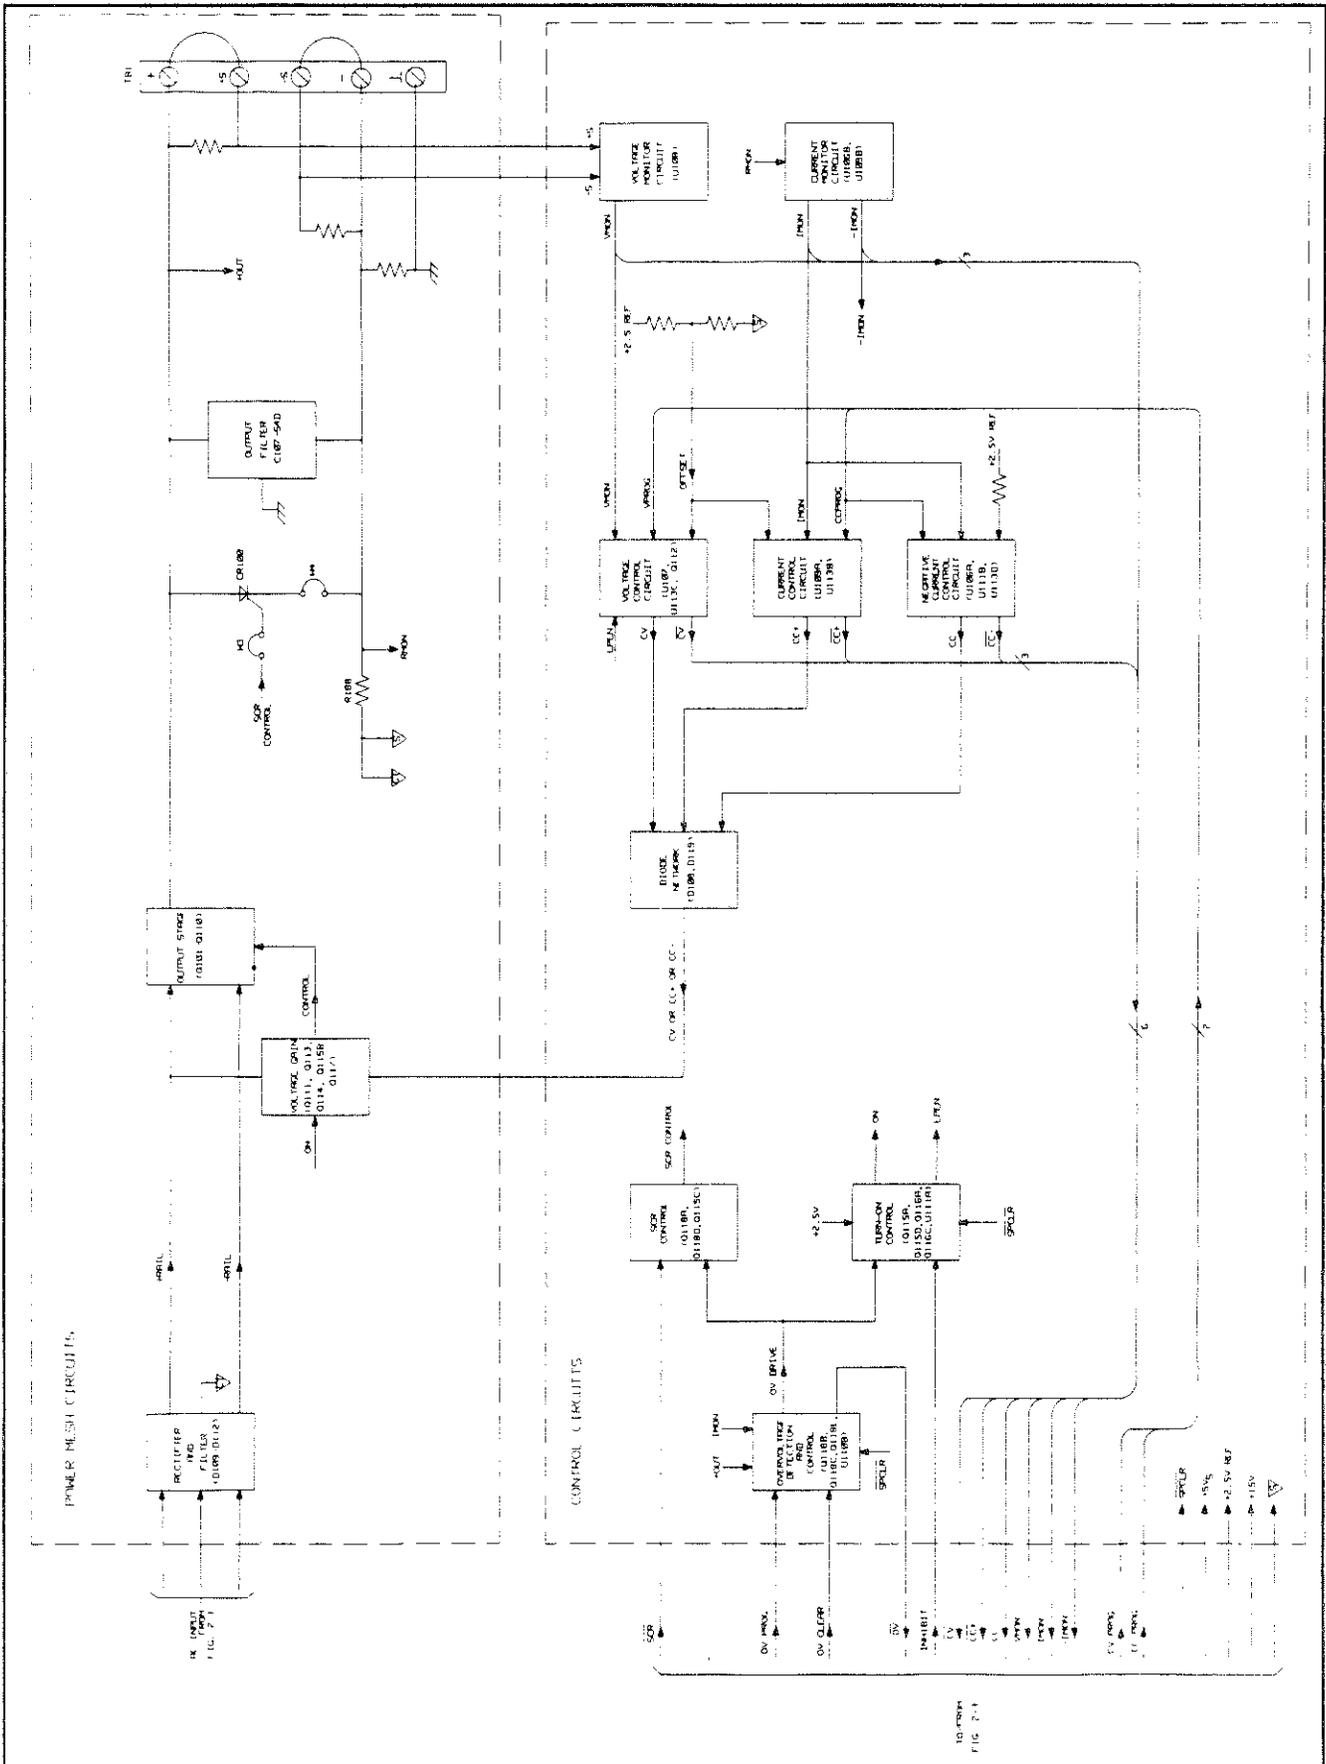

Figure 2-4. Power Mesh and Control Circuits, Block Diagram
TO/FROM FIG. 2-4
2-24 POWER MESH AND CONTROL (FIGURE 2-4)
Figure 2-4 is a block diagram that illustrates the major circuits that comprise the power mesh and control circuits. Complete circuit details for each model are shown schematically in the back of the manual in: Figure 6-4 for HP Model 6632A, Figure 6-5 for Model 6633A, and Figure 6-6 for HP Model 6634A. The functional names on the block diagram correspond with those on the schematics.
The power mesh circuit, shown in the upper half of Figure 2-4, converts the ac from power transformer T1 to a regulated dc output power. These circuits, under control of the circuits shown in the lower half of Figure 2-4, generate a constant voltage (CV) or constant current (CC+) output or provide a current sink (CC-) at the output. In addition to controlling the output stages, the control circuit sends measurement and status signals back to the HP-IB and/or the front panel via the secondary and primary interface circuits.
The following paragraphs describe circuit operation. An overview discussing how regulation is achieved is given first followed by a description of each circuit shown on Figure 2-4.
The voltage gain stage and the output stage in the power mesh section in conjunction with the voltage and current circuits in the control circuit section (see Figure 2-4) are the main regulating elements. The output stage is comprised of
Crowbar SCR (CR100), connected across the output (see Figure 2-4), is fired if the output voltage exceeds the programmed overvoltage value. When fired, CR100 shorts the output. A High level SCR GATE signal from the SCR control circuit (see paragraph 2-35) will fire the SCR. As shown in Figure 2-4, SCR GATE is connected to the SCR via jumper W3. Jumper W4 connects the SCR to the - output line. For certain operations, these jumpers can be removed to disconnect the SCR from the output (see paragraph 4-15 in the Operating Manual). With the SCR removed, the output will not be shorted when an overvoltage condition occurs, but the output stage will be disabled.
When the supply is operating in the constant voltage mode, this circuit generates the CV (analog) and \overline{CV} (digital) control signals (see Figure 2-4). The CV signal controls (via diodes D123 and D108) the input of the voltage gain stage in order to regulate the output voltage. When D123 is conducting, a Low level \overline{CV} status signal is sent back to the secondary
When the supply is operating in the constant current mode, this circuit generates the CC+ (analog) and $\overline{CC+}$ (digital) signals (see Figure 2-4). The CC+ signal controls (via diodes D118 and D108) the input of the voltage gain stage in order to regulate the output current. When D118 is conducting, comparator U113B output goes low and the $\overline{CC+}$ signal is sent back to the secondary interface microcomputer to indicate that the supply is in the constant current mode of operation.
If the output voltage (+ OUT) exceeds OV PROG, U110A produces a negative going signal which sets the latch formed by Q118E and Q118B. This results in a high level OV DRIVE signal and a low level OV signal. The OV signal is sent to the secondary interface microcomputer. As shown in Figure 2-4, the OV DRIVE signal is applied to the SCR control and turn-on control circuits. This causes the SCR control circuit to fire the SCR and the turn-on control circuit to turn off (inhibit) the output stage.